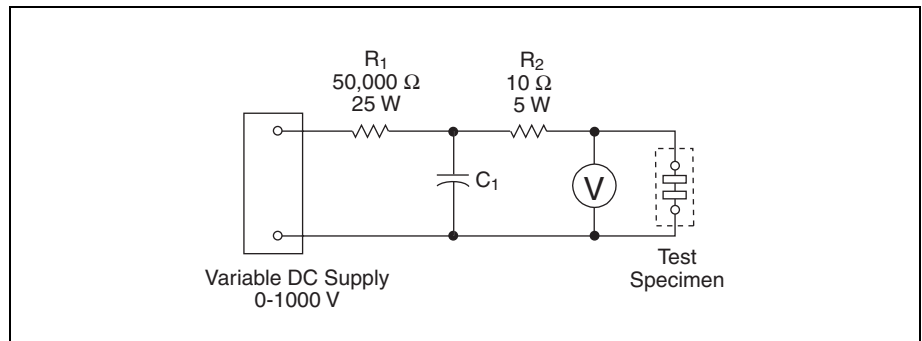

Figure 4.8 UL 497 Breakdown Voltage Measurement
- **Breakdown Voltage Measurement** — Arrestors are to be tested in the protector blocks or panels in which they are intended to be employed. Arrestors are required to break down within $\pm 25\%$ of the manufacturer's specified breakdown rating. In no case shall the breakdown voltage exceed 750 V peak when subjected to the strike voltage test shown in Figure 4.8. At no time during this test will the supply voltage be increased at a rate greater than 2000 V/ μ s.